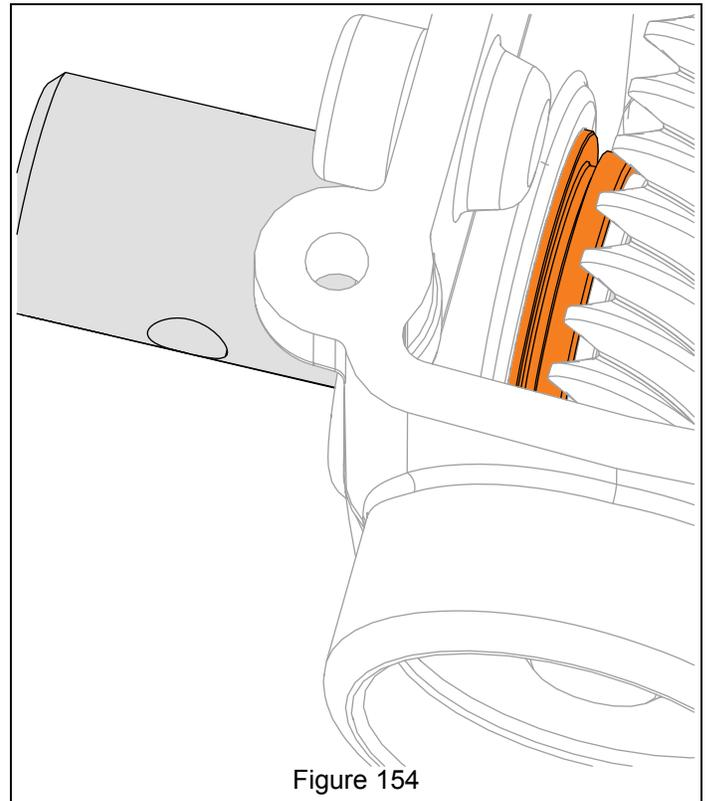

Figure 154
15. With a driver, such as a 1 1/4" deep-well socket, drive bushing into gearcase until groove is just beyond interior gearcase wall. See Figure 154.